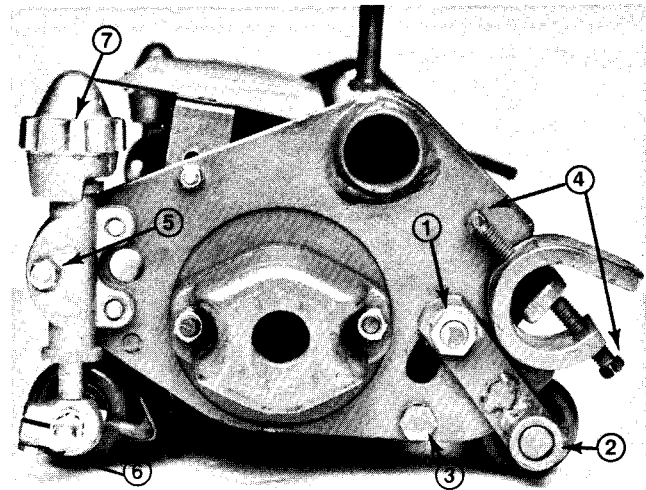

Figure 26
A. Loosen the locknuts securing height of cut adjusting rods at both ends of the cutting unit and the roller shaft clamp bolts (Fig. 26).
B. Turn height of cut adjustment knobs until they are disconnected from the height of cut adjusting rods (Fig. 26). The roller assembly can then be removed from the cutting unit by pulling evenly on both sides.